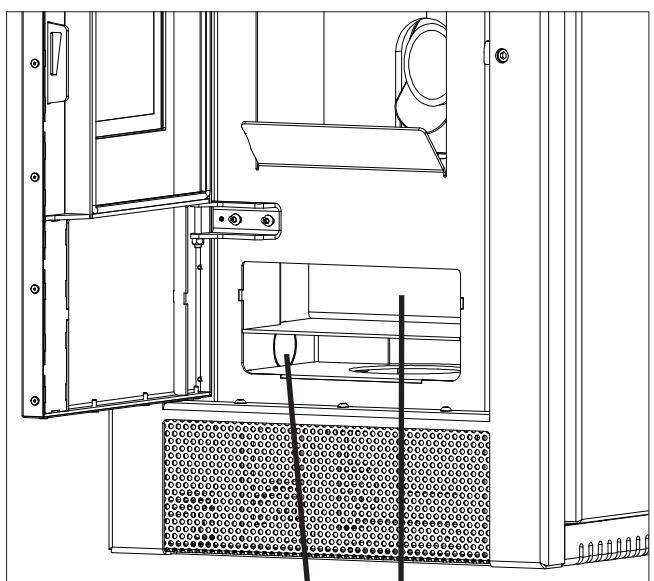

Fig.7b 12 13
- The ash box is behind the combustion chamber door. For cleaning, release the locking mechanism of the ash box and pull the ash box forward and out. Also clean the area below the ash box compartment (waste gas flues, see Fig.7b).